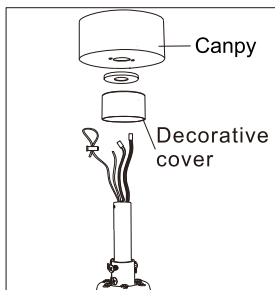

Figure 1.3
- Place all electric wires and the safety cable through the decorative cover and canopy. (Figure 1.3)